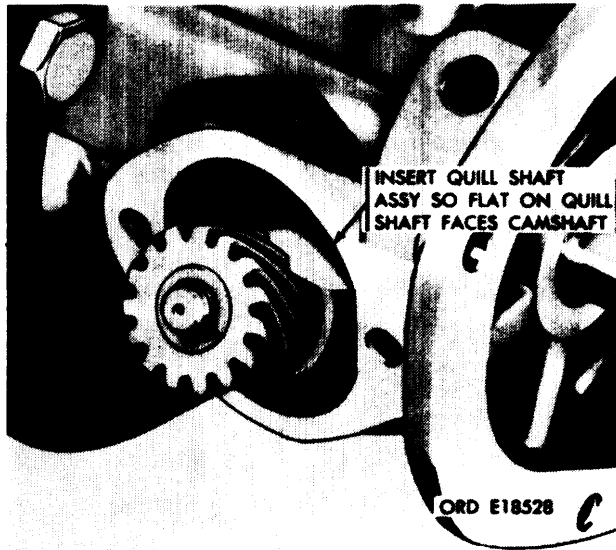

Figure 3-115. Installing quill shaft assembly.
c. Refer to figure 3-115. Insert quill shaft assembly.